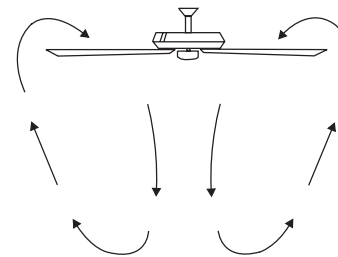

Fig. 29
**Warm Weather Operation:** Forward (counter clockwise). A downward airflow creates a cooling effect (Fig. 29). This allows you to set your air conditioner on a warmer setting without affecting your general comfort.